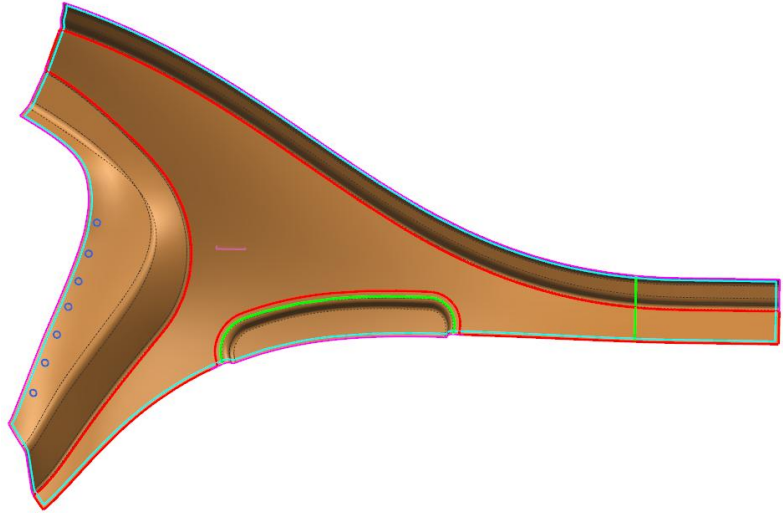

Figure P4–1
1. Open **PROJECT4\_C\_PILLAR.prt**. The model displays as shown in Figure P4–1.